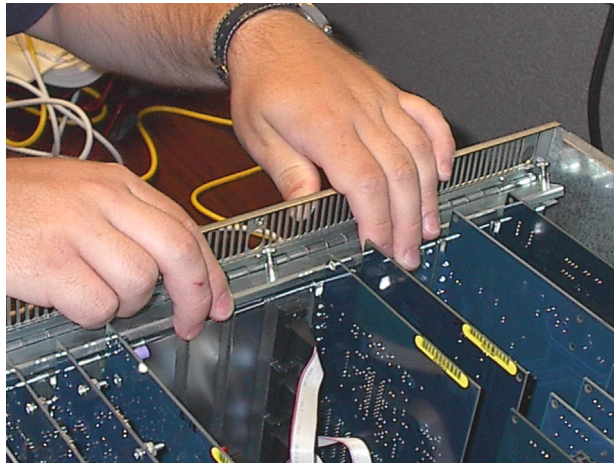

Figure 1.1: Rear Lockdown Panel
4. Locate the lockdown panel that holds the backs of the cards in place. It is on the inside of the back of the unit. It is hinged in place, and held down with three thumbscrews, see the following figure 1.1.